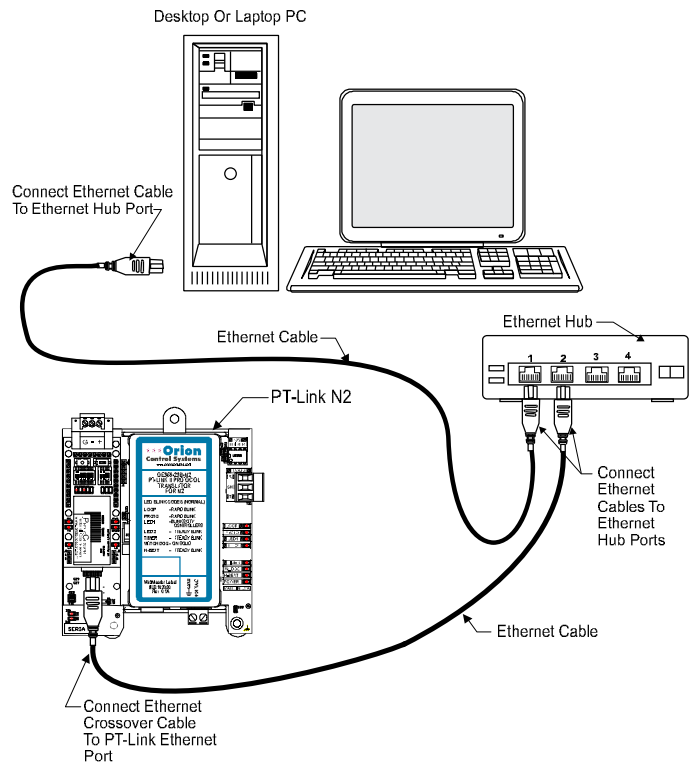

Figure 4: Connecting With Ethernet Cable & Hub
- 2.) You can also connect both your PC and the PT-Link II to an Ethernet Hub with standard CAT5 cables. See **Figure 4** for details.